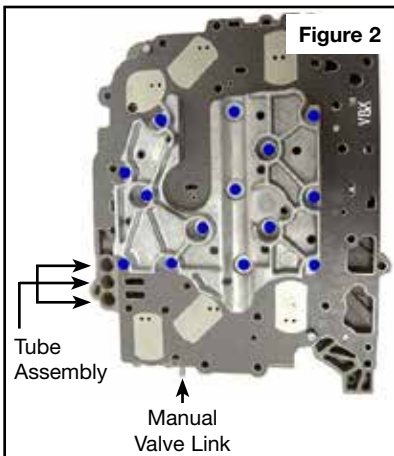

Figure 2
- e. Install separator plate, separator plate gasket and U-shaped housing onto valve body (**Figure 2**). Use a little assembly lube on the separator plate to hold the separator plate gasket in place so it does not move and get damaged.
- f. Install fourteen valve body bolts as indicated by the circles (**Figure 2**). Torque bolts to 50 in/lbs starting in the center and working around the outside in circular pattern.
- a. Install the valve body onto case aligning manual valve and the three tubes in the tube assembly with the valve body (**Figure 2**). The dowels should drop into the holes on the case.